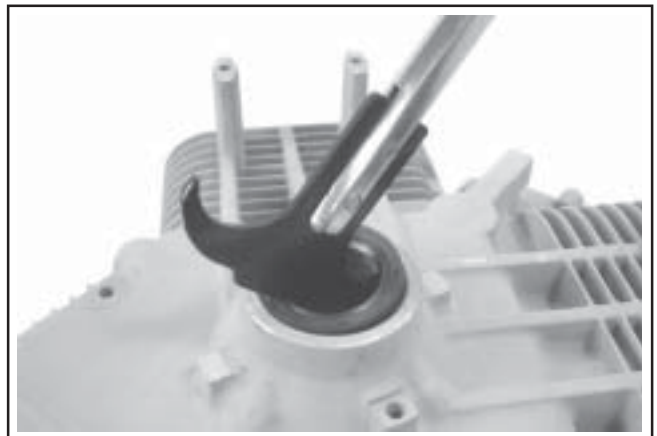

Figure 9-77. Removing Oil Seal.
1. Remove oil seal from crankcase. See Figure 9-77.